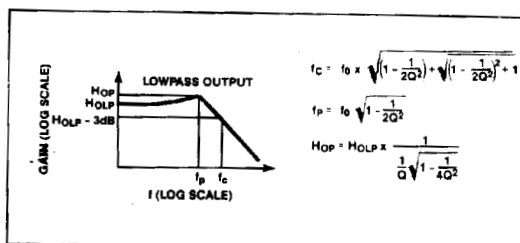

Figure 2. Lowpass Filter Terminology
- $H_{OLP}$ : The gain in V/V of the lowpass output as  $f \rightarrow 0$ Hz. See Figure 2.